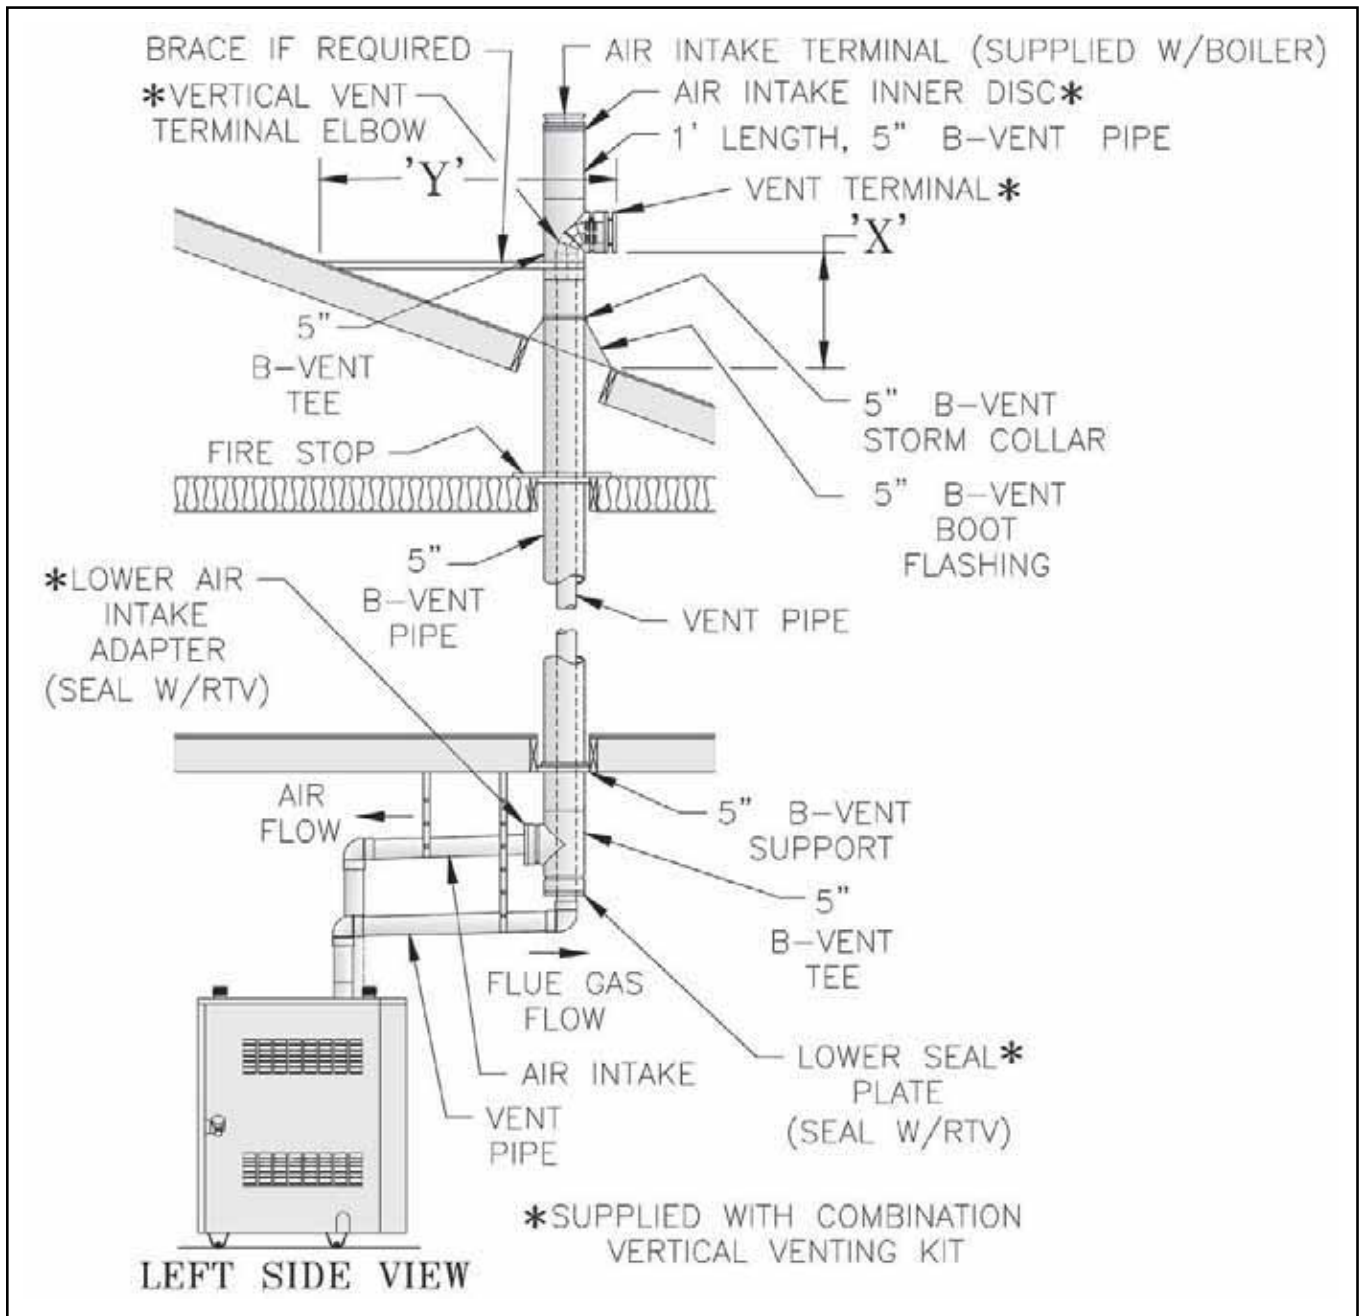
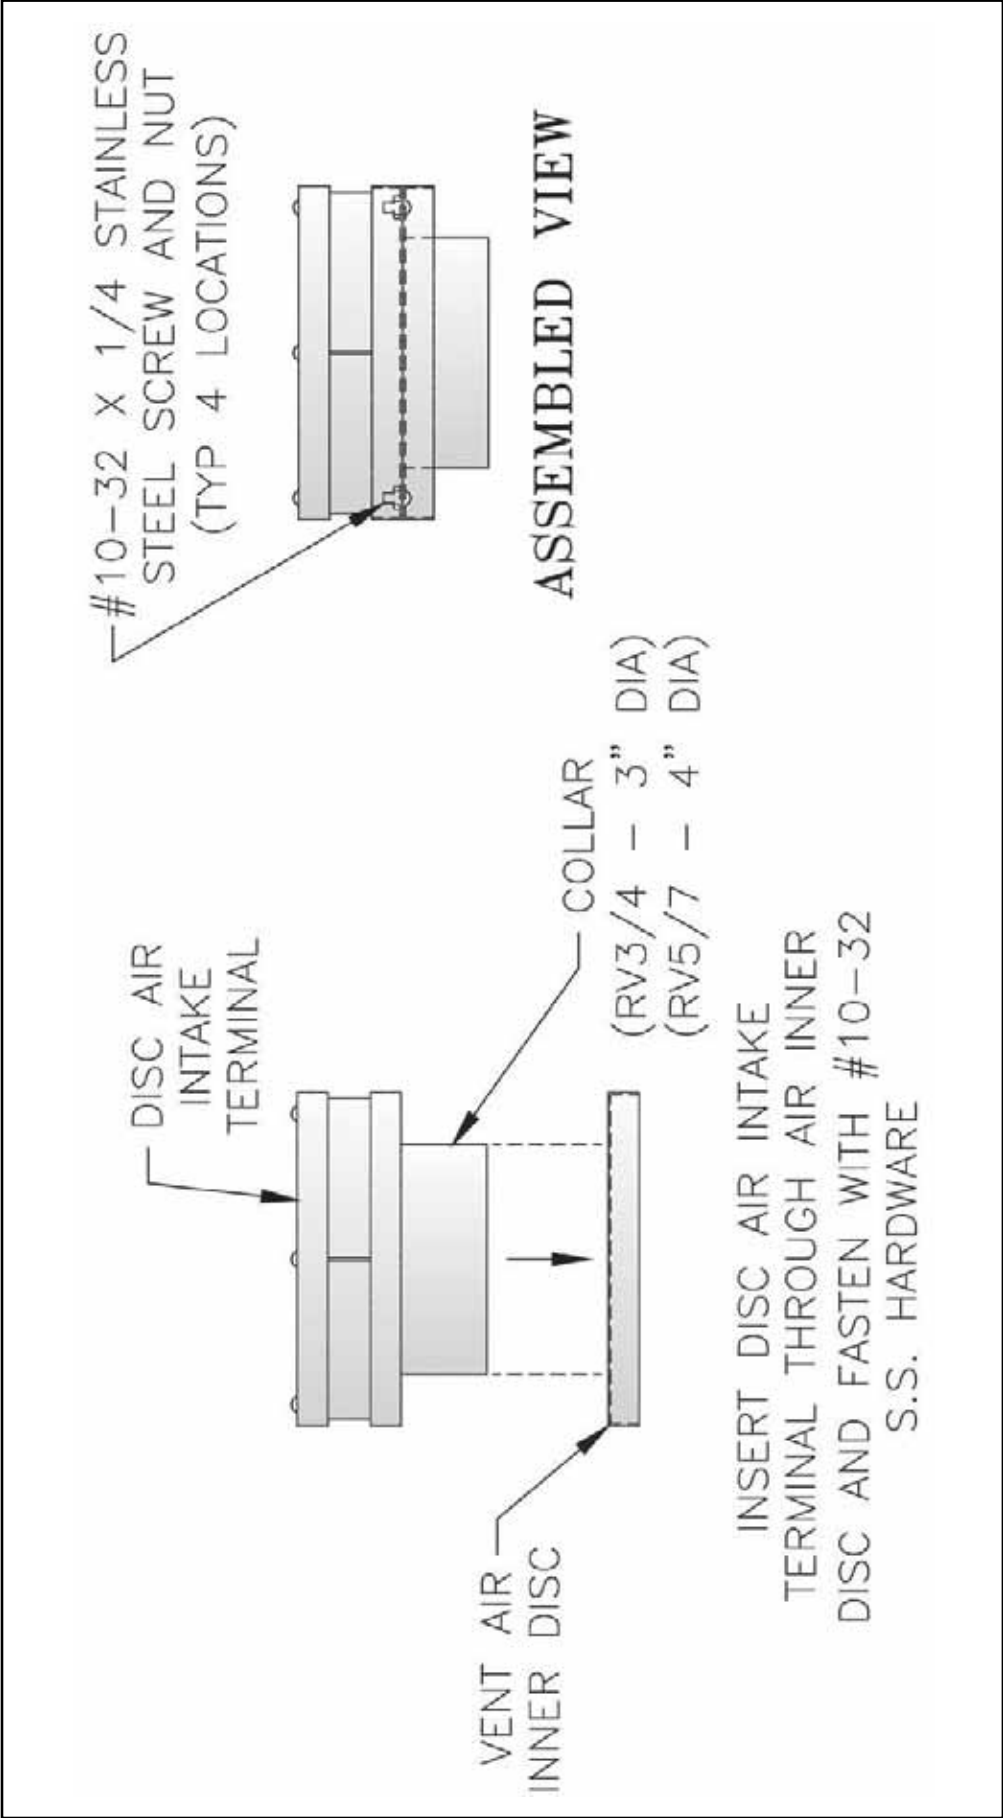

Figure 12: Combination Vertical – Vent/Air Installation
Figure 13: Combination Vertical – Air Intake Terminal Assembly
I. Combination Vertical Venting System – See Figures 12, 13 and 14.
- NOTE: Roof penetration must allow enough pipe to extend above roof surface to maintain minimum vertical ("X") and minimum horizontal ("Y") distance of twelve (12) inches from roof surface when B-Vent tee is installed. Allow additional vertical ("X") distance for expected snow accumulation. See Figure 12.
5. Install vertical lower seal plate to bottom leg of B-vent tee. See Figure 12.
6. From top of B-vent vertical run, install three (3) inch AL 29-4C® vent pipe. Refer to Sections C through E for proper procedures for joining vent pipe and fittings.
7. Allow minimum of three (3) inches of vent piping to extend through lower seal plate of bottom B-vent tee.
NOTE: Position horizontal leg of B-vent tee in direction opposite pitch of roof. See Figure 12.
11. Install one (1) foot B-vent pipe into top leg of B-vent tee. Seal per B-vent manufacturer's instructions.
12. Install disc air intake terminal (supplied with boiler) to one (1) foot B-vent pipe.
- a. Insert collar of disc air intake terminal into air intake inner disc. Secure disc air intake terminal to inner disc using four (4) 10 - 32 x ¼ inch stainless steel machine screws and stainless steel nuts provided. See Figure 13.
- b. Install inner disc/air intake terminal assembly onto top of one (1) foot B-vent pipe. Secure inner disc to B-vent pipe and seal with RTV.
14. Connect boiler vent connector to vertical vent pipe run. See Figure 12.
- d. Use non-combustible 3/4 inch pipe strap to support horizontal runs and maintain vent location and slope. Maximum support spacing is five (5) feet.
15. Install air intake piping. See Figure 12.
- f. The air intake pipe must be adequately supported with straps or supports no less than five (5) feet apart on horizontal runs. The complete air intake piping system must be rigid and able to withstand minor impacts without collapse.
- g. Connect air intake piping to air intake adapter. See Figure 12.
- NOTE: When installing three (3) inch diameter air intake piping for a RV3 or RV4 application, the use of a 3 inch x 4 inch increaser will be required to connect air intake piping to air intake adapter. (Increaser included with combination vertical venting kit).